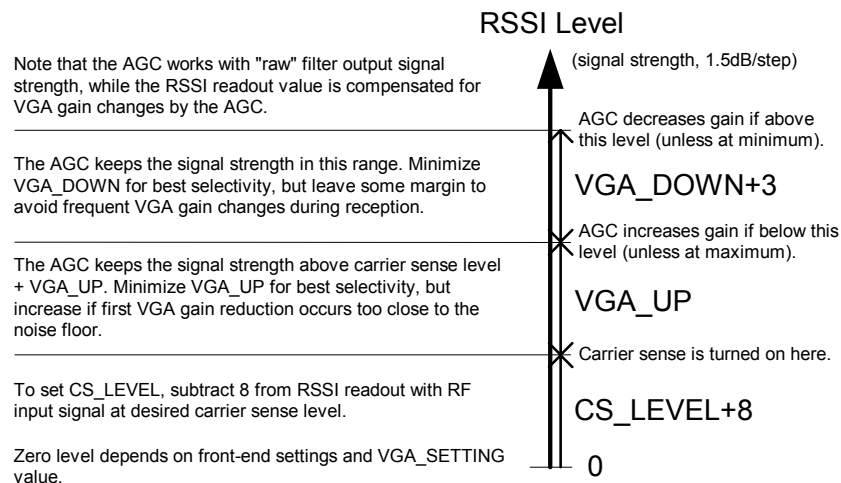

Figure 20. Relationship between RSSI, carrier sense level, and AGC settings CS_LEVEL, VGA_UP and VGA_DOWN
A digital RSSI is used to measure the signal strength after the ADC. The *CS_LEVEL[4:0]* in the *VCA4* register is used to set the nominal operating point of the gain control (and also the carrier sense level). Further explanation can be found in Figure 20.
5. If desired, adjust the VGA_UP and VGA_DOWN settings according to the explanation in Figure 20.
CS_LEVEL[4:0] sets the threshold for this specific *VGA_SETTING[4:0]* value. If the *VGA_SETTING[4:0]* is changed, the *CS_LEVEL[4:0]* must be changed accordingly to maintain the same absolute carrier sense threshold. See Figure 20 for an explanation of the relationship between RSSI, AGC and carrier sense settings.